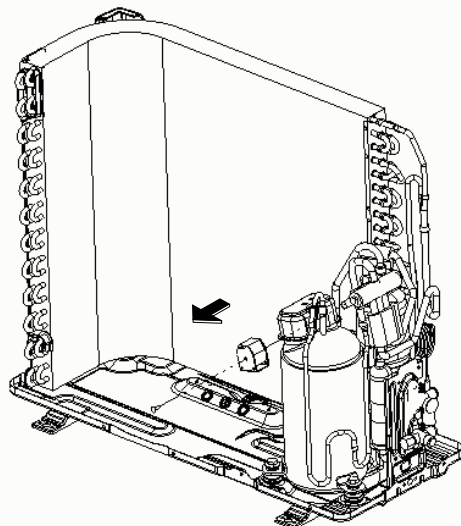

Fig. 63
- (1) Loosen the screw of the four way valve coil and remove the four way valve coil. (Fig.63)